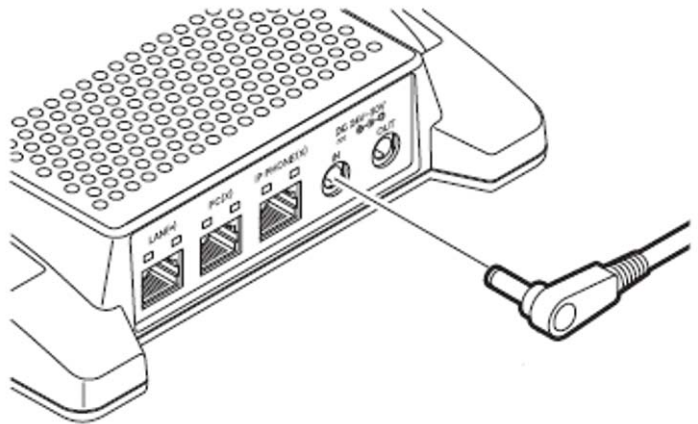

Figure 6-60 AC to DC In Connection
17. Install the cable from the optional external AC adapter (refer to Figure 6-60 AC to DC In Connection).